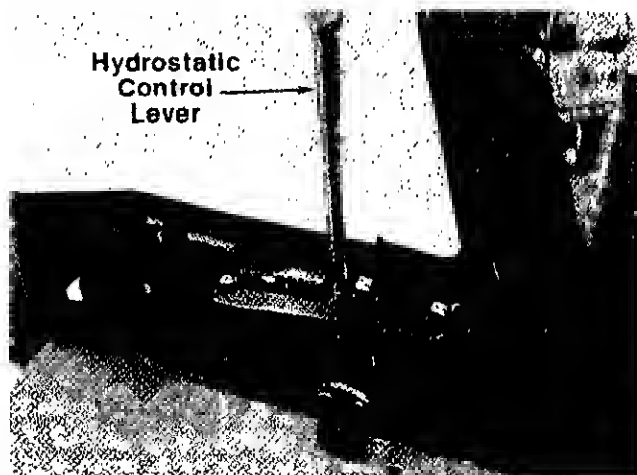

FIGURE 11.
A single control lever connected to the hydrostatic transmission controls both the speed and direction of the tractor. Infinite speed control is achieved by moving the control lever forward or backward. The farther forward or backward you move the control lever the faster you will travel. Pulling the control lever into neutral (N) area will stop the tractor. To increase rear wheel torque (pulling power) move the control lever towards neutral (N) position. The riding mower responds similar to shifting to a lower gear with a gear type transmission. (See figure 11.)